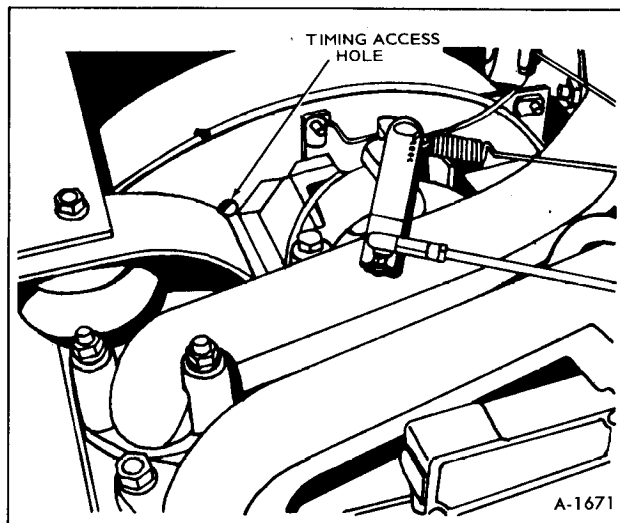

Figure 40-Timing Access Hole Location
2. Remove the dot button on blower housing to provide an access to view timing marks (See figure 40).
2. A small hole on the rear portion of blower housing provides an access to view timing marks (See figure 40). Two marks are provided; one for T/C (top center) and one for 2/5 (25° BTC).